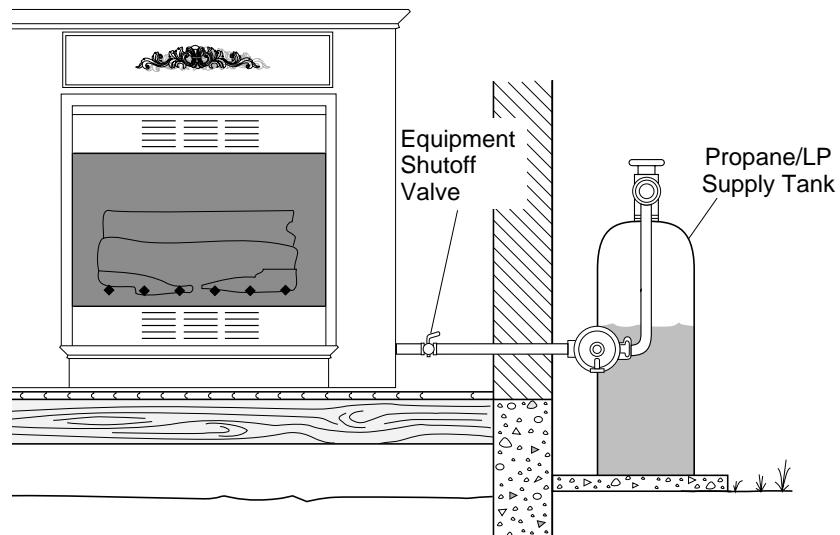

Figure 25 - Checking Gas Joints (Shown with Optional Mantel)
3. Check all joints from propane/LP supply tank to equipment shutoff valve (see Figure 25). Apply noncorrosive leak detection fluid to gas joints. Bubbles forming show a leak.